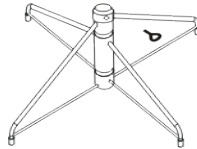

Fig. 2
4. Insert the middle section (B) into the bottom section (C), the upper section (A) into middle section (B). (See Fig.2,3)
2. Open the stand to a 90 degree angle until the hole lines up with the hole on the tube. (See Fig.2)